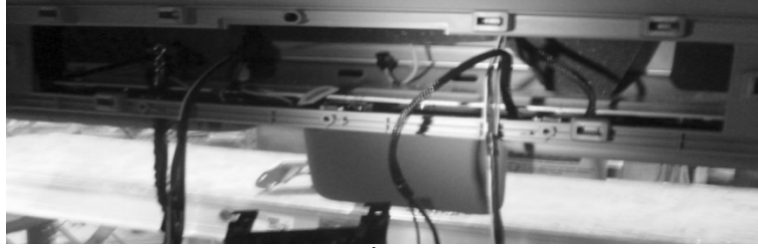

Figure 11
- e. Once visor fitment/alignment is confirmed, mark all (18) holes to be drilled into truck.
- a. First, drill 1/8" pilot holes for all (18) marked holes
- b. Drill all (12) center bracket holes 9/32"
- c. Drill outer bracket's top hole (1) 9/32"
- d. Drill outer bracket's bottom holes (2) 25/64"
- a. Prepare the interior for access (See Figure 11)